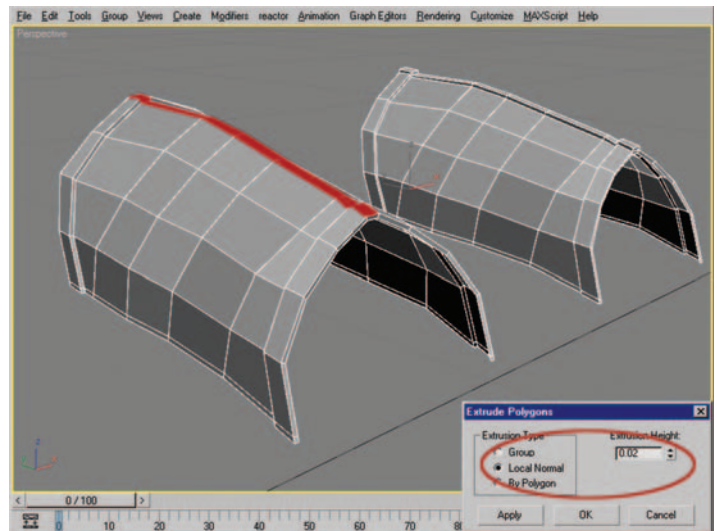

Figure 10.10 Polygon selection before and after extruding.
12. At the Polygon subobject level, select the nine polygons seen in Figure 10.10 (left) and use the Extrude settings with an Extrusion Height of 0.02 to create the result seen in Figure 10.10 (right).